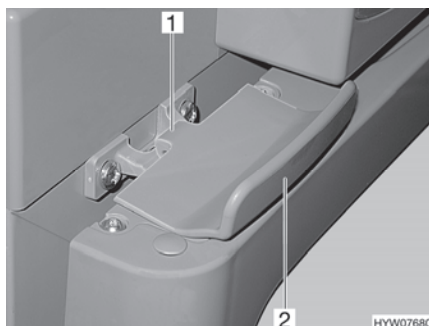

Fig. 129 Lock of refrigerator door, closed (Thetford)
- Open the refrigerator door at the handle (Fig. 129,2). The lock (Fig. 129,1) is released automatically.